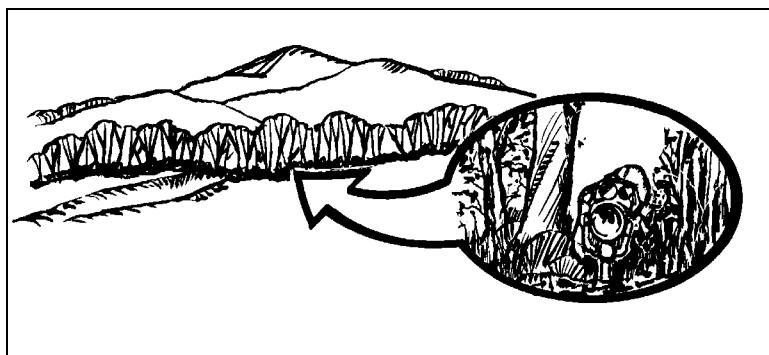

Figure 8-2. Use of natural cover and concealment.
a. Use natural cover and concealment. Choose positions where the terrain provides *cover* from enemy fire and *concealment* from enemy ground and aerial observation (Figure 8-2).